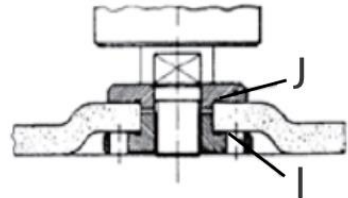

Fig. 3
- b. For coarse grinding discs with a flat or depressed centre hole, install the flange with the flat side facing outwards (Fig. 3)
6. Press the lock button (C) and tighten the fastening flange with the spanner (H).